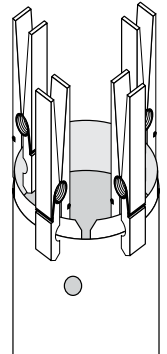

Figure 10
4. Hold the assembly together with clothespins (Figure 10) until the adhesive dries.